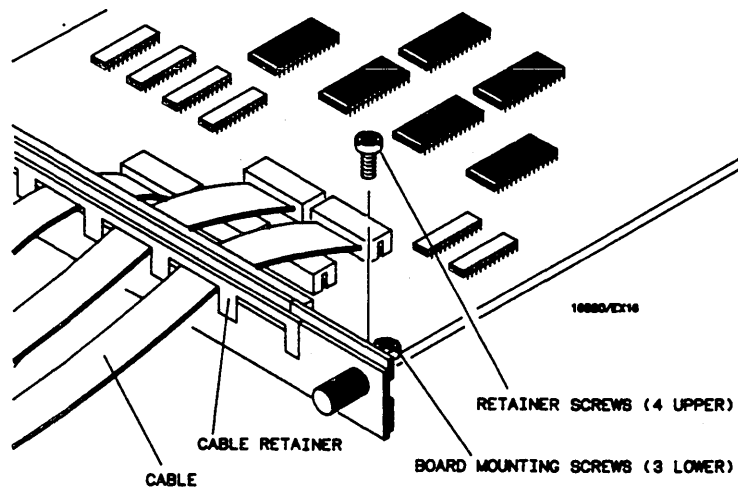

Figure 6-18. Retainer And Screws
- f. Using a No. 10 torx \otimes driver, remove four screws that hold cable retainer onto card. See figure 6-18.